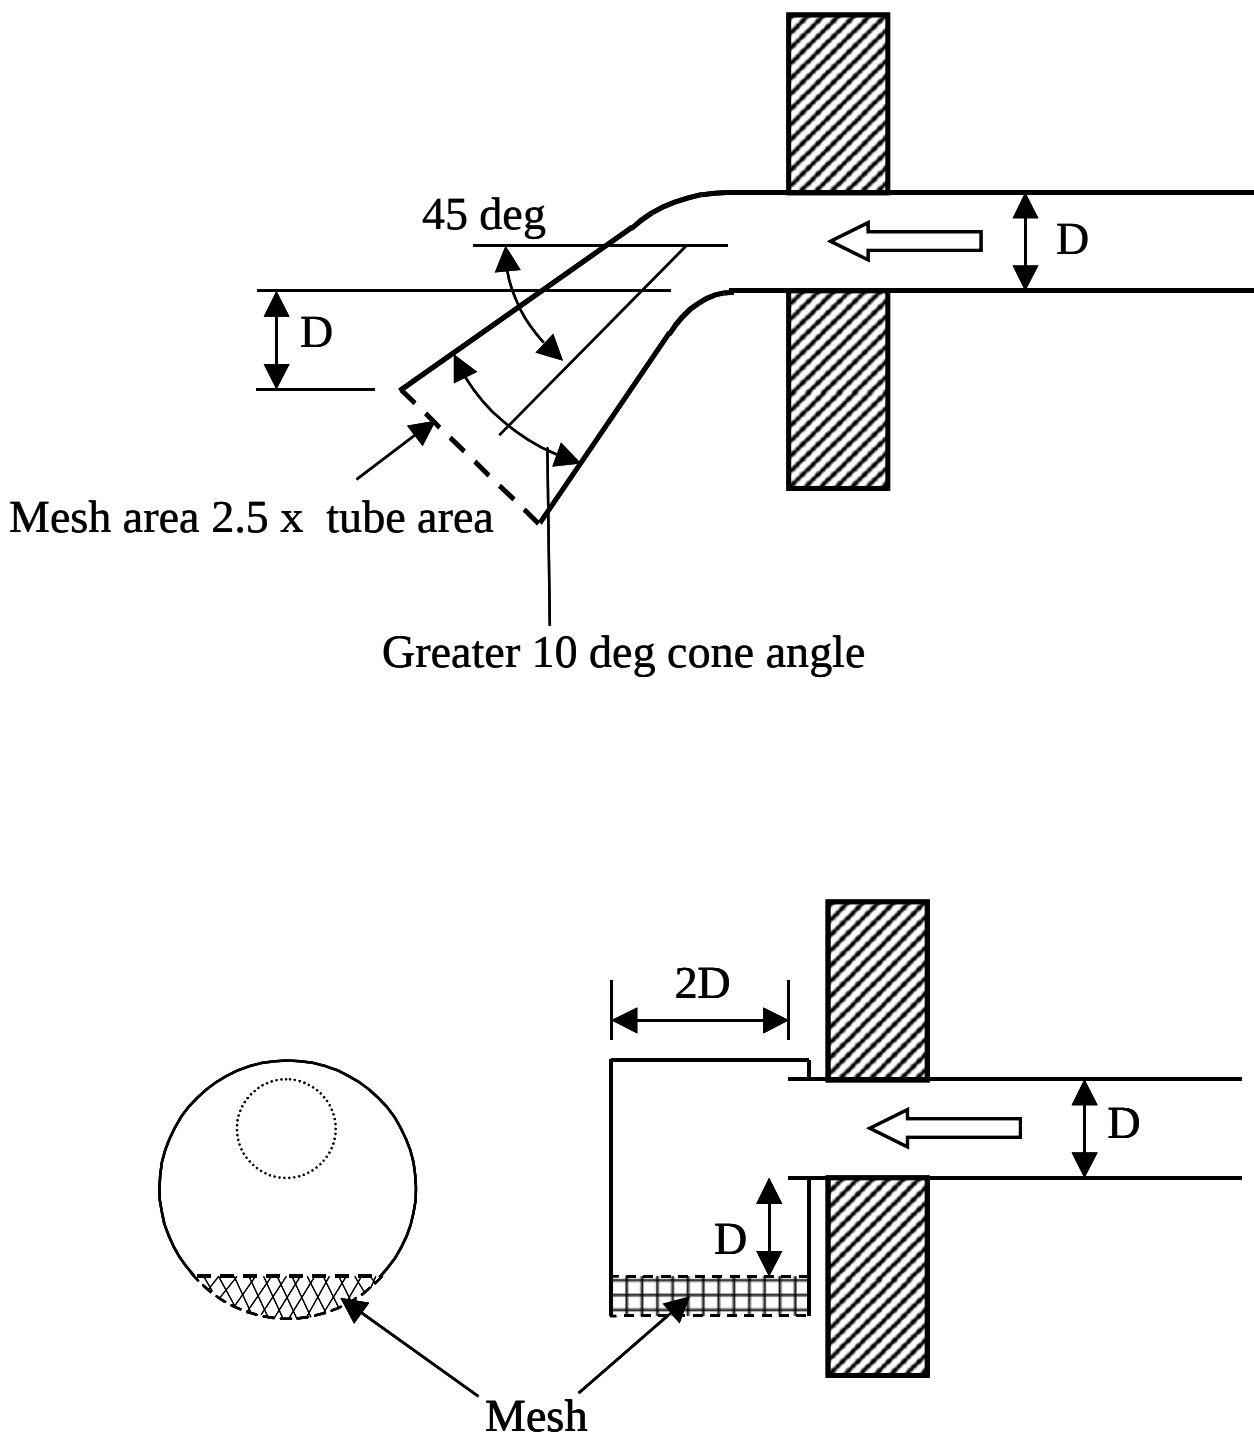
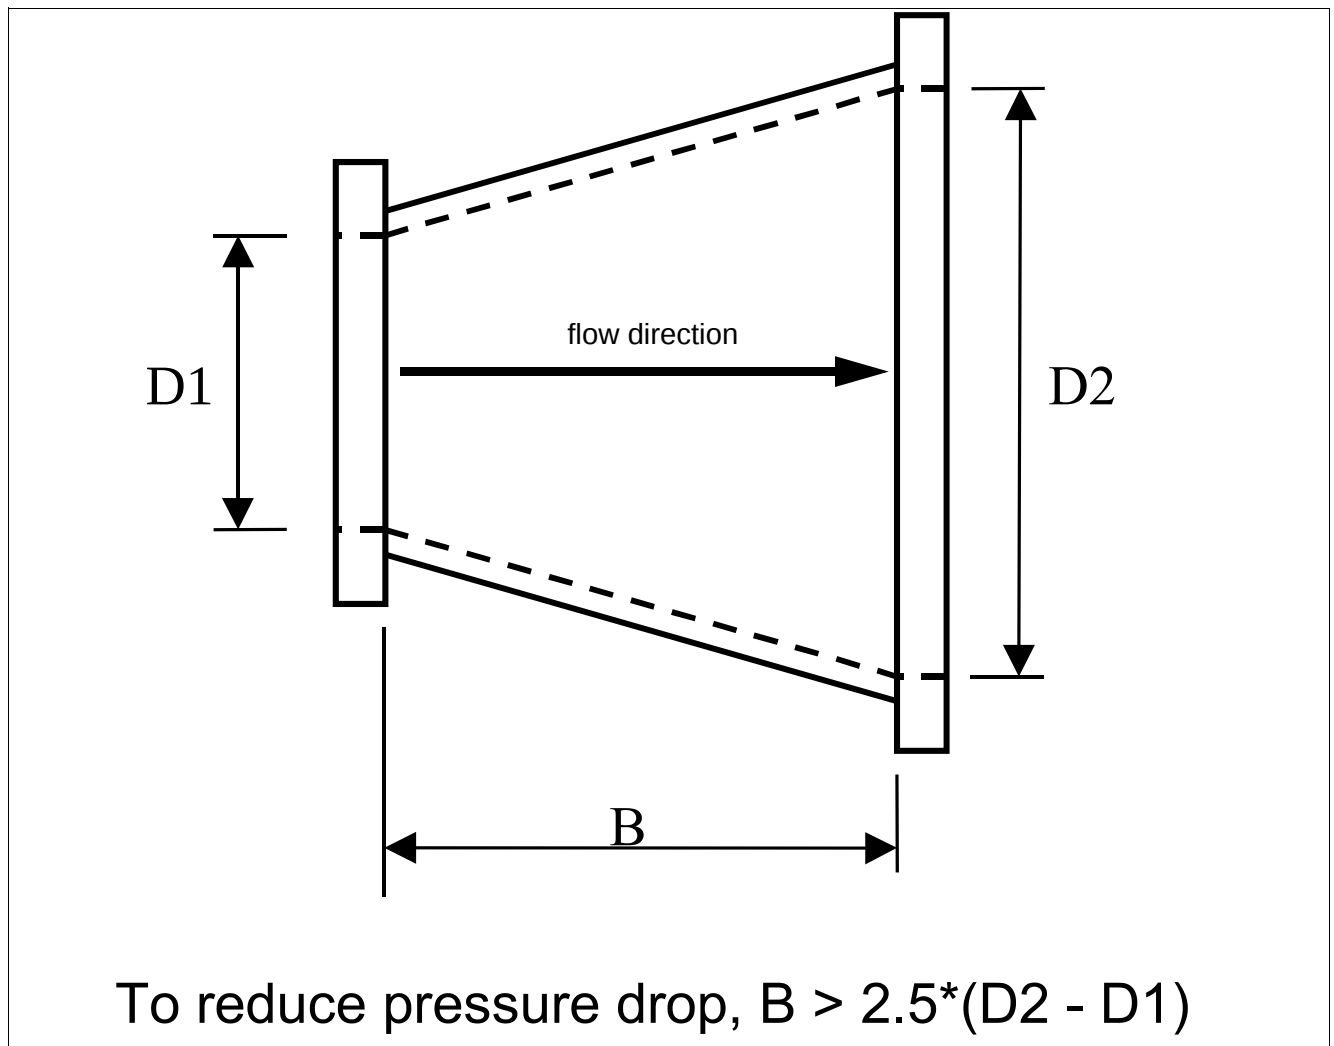

Fig. 2 Example of a horizontal quench tube exhaust
Fig. 7 Diffuser
1. The quench tube will comprise straight, hydraulically smooth tube sections, bends (up to 90°) and a diffuser if required (Fig. 7). The end of the tube must be terminated in a way to prevent ingress of rain, snow, and foreign objects (Fig. 1; Fig. 2). Flexible sections are used to connect to the magnet, and as expansion joints ("Principle layout of a quench tube, example 1." on page 9 - 14).
6. The end of the quench pipe must be protected from outside elements such as rain or snow, and is therefore fitted with a wire mesh. **The mesh size has to be 10±1 mm [3/8"], with 1 mm round wires**, to prevent ingress of foreign bodies [e.g., birds and rodents]. The area of the mesh must be at least 2.5 times the cross-section area of the quench tube (Fig. 2).
11. Expansion from a small to a large tube diameter is achieved using a diffuser. Diffusers have to conform to the geometric parameters shown in Fig. 7. **Never reduce the diameter of a line in the downstream direction.**